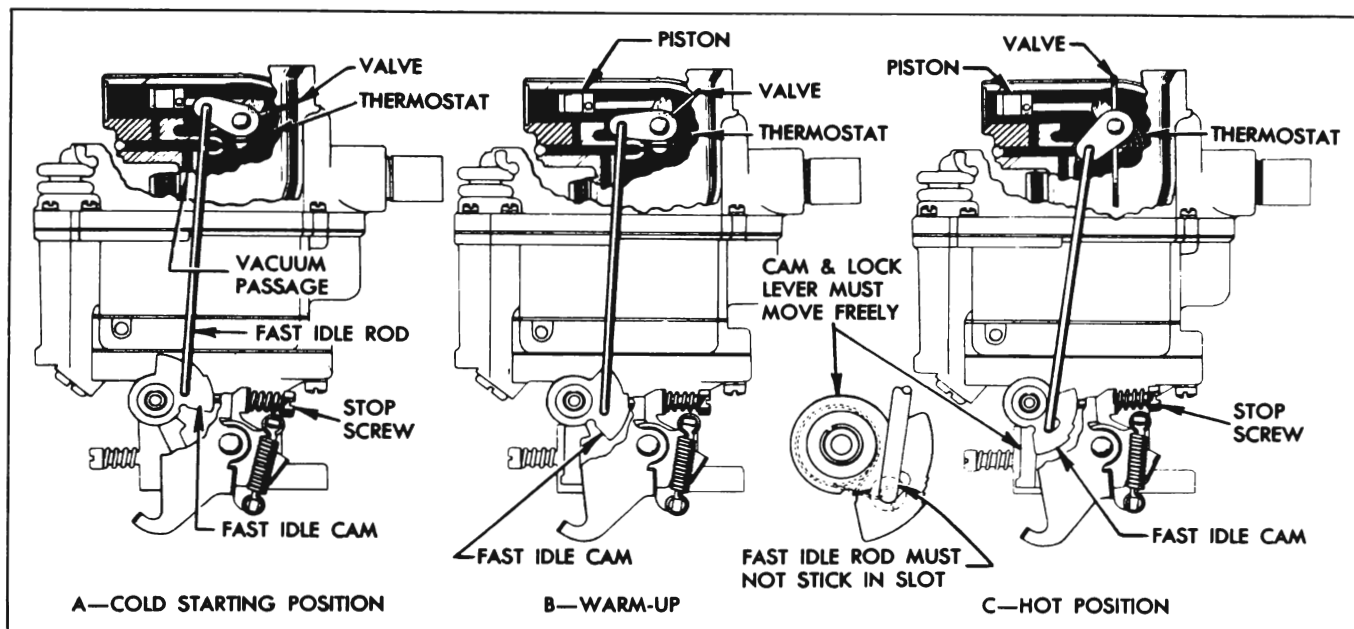

Figure 3-62—Stromberg Automatic Choke Operation
When the accelerator pedal is depressed to start the engine, the throttle stop screw is lifted clear of the fast idle cam and the thermostat then closes choke valve. See figure 3-62 (A).
When accelerator pedal is released after starting the engine, the throttle stop screw comes to rest against a step of fast idle cam which was rotated to the fast idle position by the closing of choke. This provides proper throttle opening to prevent stalling of the cold engine. See figure 3-62 (A).
When the throttle is opened and throttle stop screw is lifted from the fast idle cam, the choke valve then moves to a more open position and the fast idle cam is rotated to bring a lower step into position for the throttle stop screw. The engine will then run at a lower speed at closed throttle. See figure 3-62 (B).
When the engine reached normal operating temperature, the choke thermostat is heated to the point where it no longer exerts any spring tension on the choke valve. The choke valve is in the wide open position and the fast idle cam is in the slow idle position so that the throttle stop screw bears against the lowest step of fast idle cam at closed throttle. See figure 3-62 (C).